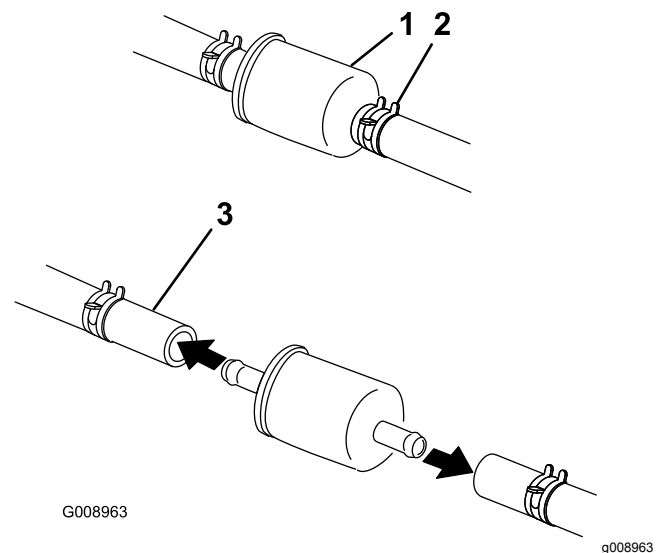

Figure 50
5. Close the fuel-shutoff valve under the seat (Figure 50).
6. Squeeze the ends of the hose clamps together and slide them away from the filter (Figure 50).
8. Install a new filter and move the hose clamps close to the filter (Figure 50).